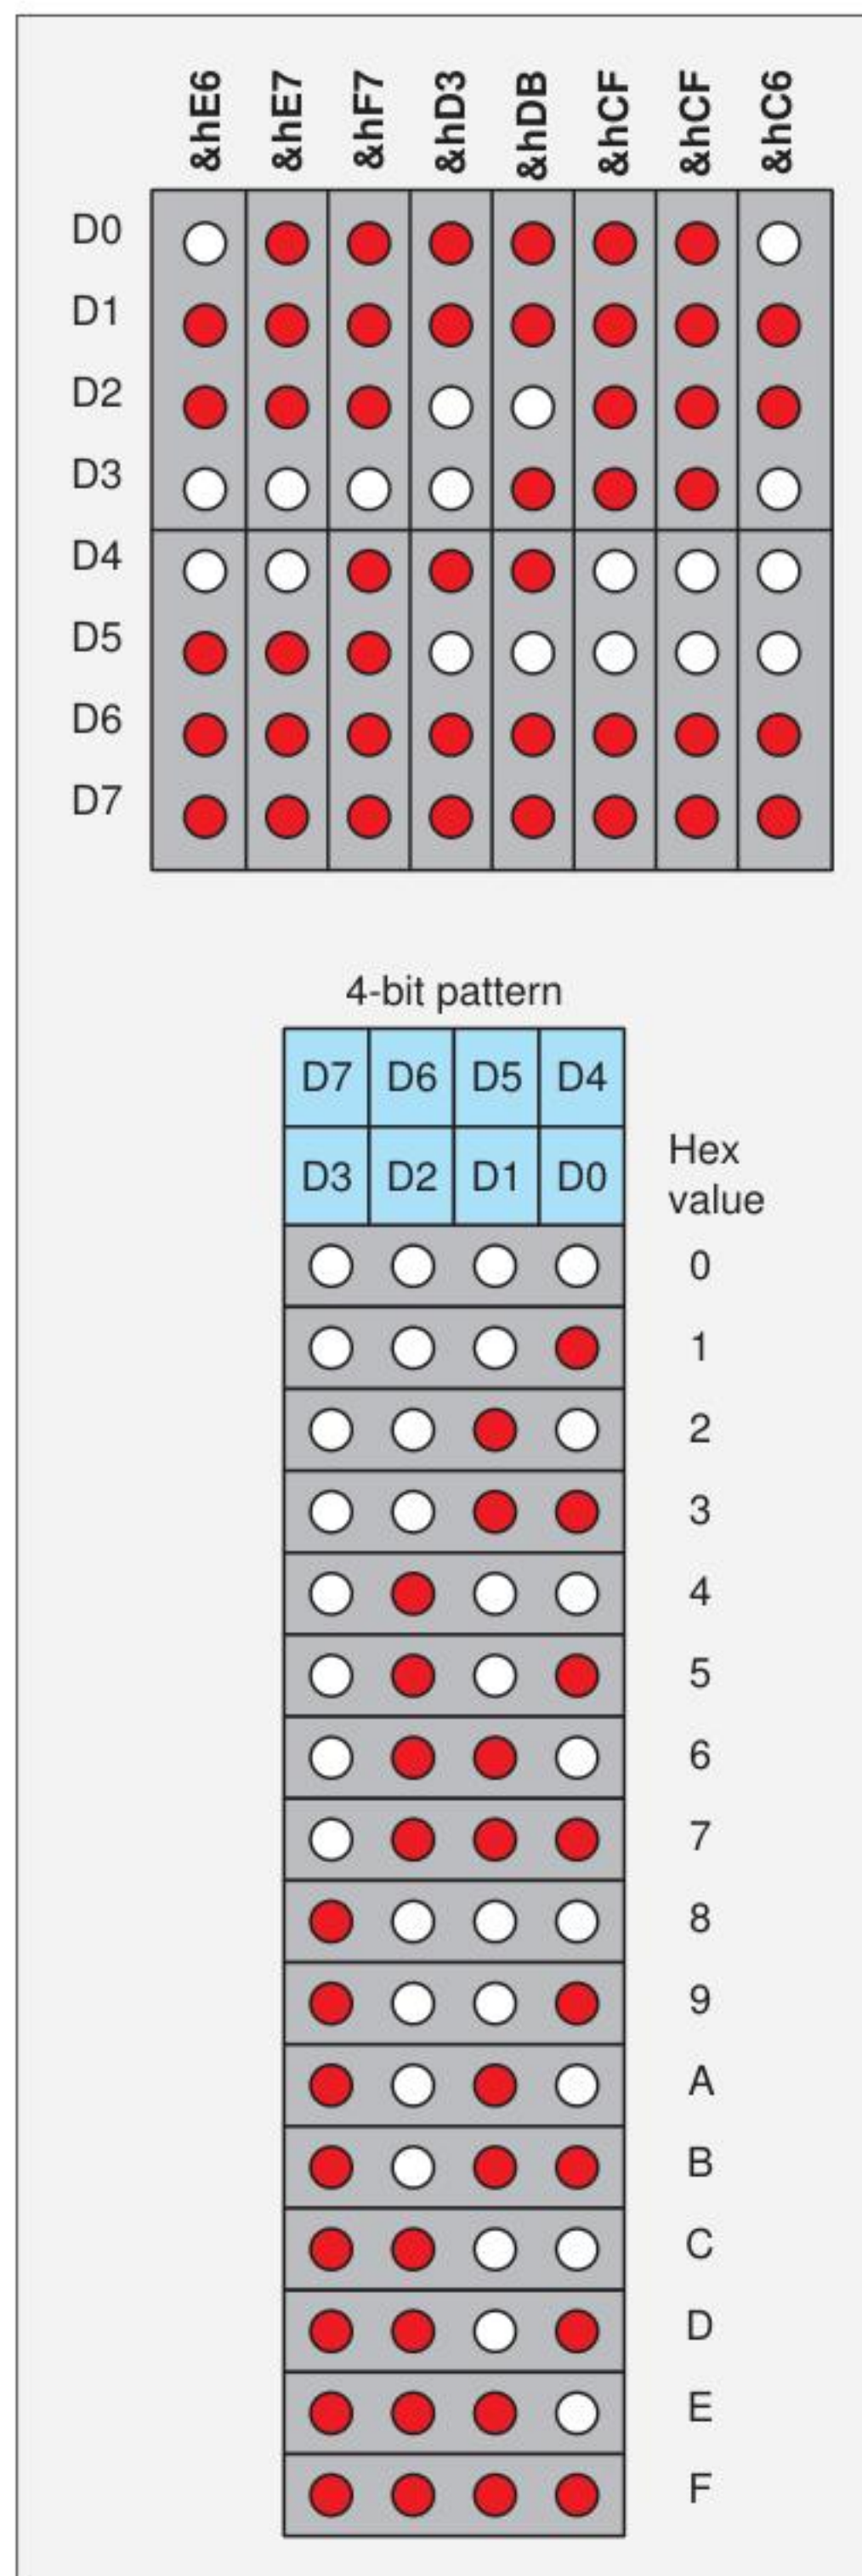

Fig.6. The eight hex numbers that represent the character '2'. Use the look-up table to see how other hexadecimal values can generate any pattern of dots.
In *decimal*, there are the ten unique digits that we are all familiar with: 0-9. In *binary*, there are just two unique digits: 0 and 1. However, in *hexadecimal* there are sixteen unique digits; 0-9, and also A-F (representing decimal values 10 to 15). Any hex digit can also be represented as a 4-bit binary number ranging from 0000 to 1111. The bottom part of Fig.6 uses illuminated LEDs to represent a binary 1, and if you refer to it you can see how any 4-bit binary number relates to a single hex digit. Take for example hex digit B, this equates to the 4-bit binary value 1011.
Using Fig.6, we can see that it is equivalent to the four hex digits: 0 A 0 2. In MMBASIC, hex numbers are prefixed with `&h`, so the required number is written as `&h0A02`.
Referring to Fig.6 (top part), you can see that the eight dot pattern values for each of the eight columns are: &hE6, &hE7, &hF7, &hD3, &hDB, &hCF, &hCF and &hC6. Now take a quick look at the SETUP section of the code. There are ten DATA lines containing the dot patterns for the ten digits. The third DATA line represents the digit '2' and you will see that it contains these exact same eight dot-pattern numbers. They are loaded into a two-dimensional array in the SETUP section of the code (by reading all the DATA values into the array Pattern). The eight dot-pattern numbers discussed here for the digit '2' are stored in Pattern(2,1), Pattern(2,2), Pattern(2,3) ... all the way to Pattern(2,8). Using an array like this makes the dot-pattern values easy to recall with a FOR/NEXT loop (as is done in SUB LoadPattern).
Let's now look at how the dot-pattern values are created – it is quite easy, especially if you are familiar with binary. Sticking with digit '2', we will examine the dot pattern for the first column – the value &hE6. Fig.6 shows each of the eight columns as two blocks of four LEDs – these
Now take these two 4-bit blocks and use the bottom part of Fig.6 to convert them into hex values. You will see that the first block [1 1 1 0] converts to hex value E, and the second [0 1 1 0] converts to hex value 6; hence the dot-pattern value is &hE6. Passing this to the relevant Column register (1) will set the LEDs as required.